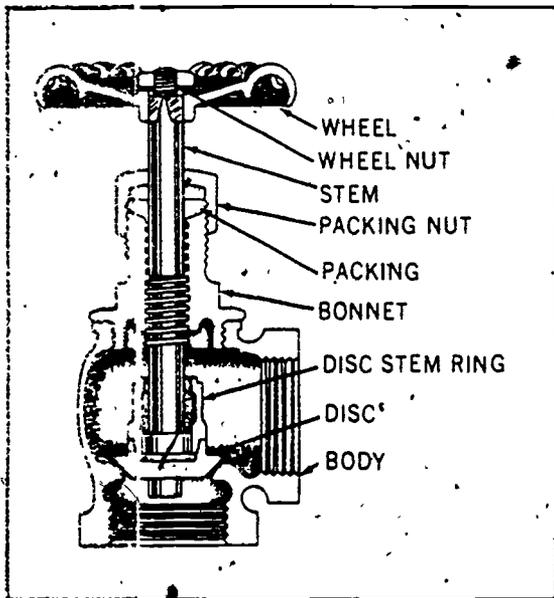

Figure 1-43. Cross section of an angle valve
*Angle valves.* Angle valves are similar in construction and operation to globe valves, except that the valve outlet is at an angle of 90° to the inlet, as shown in figure 1-43. Angle valves should be maintained in a manner similar to globe valves.